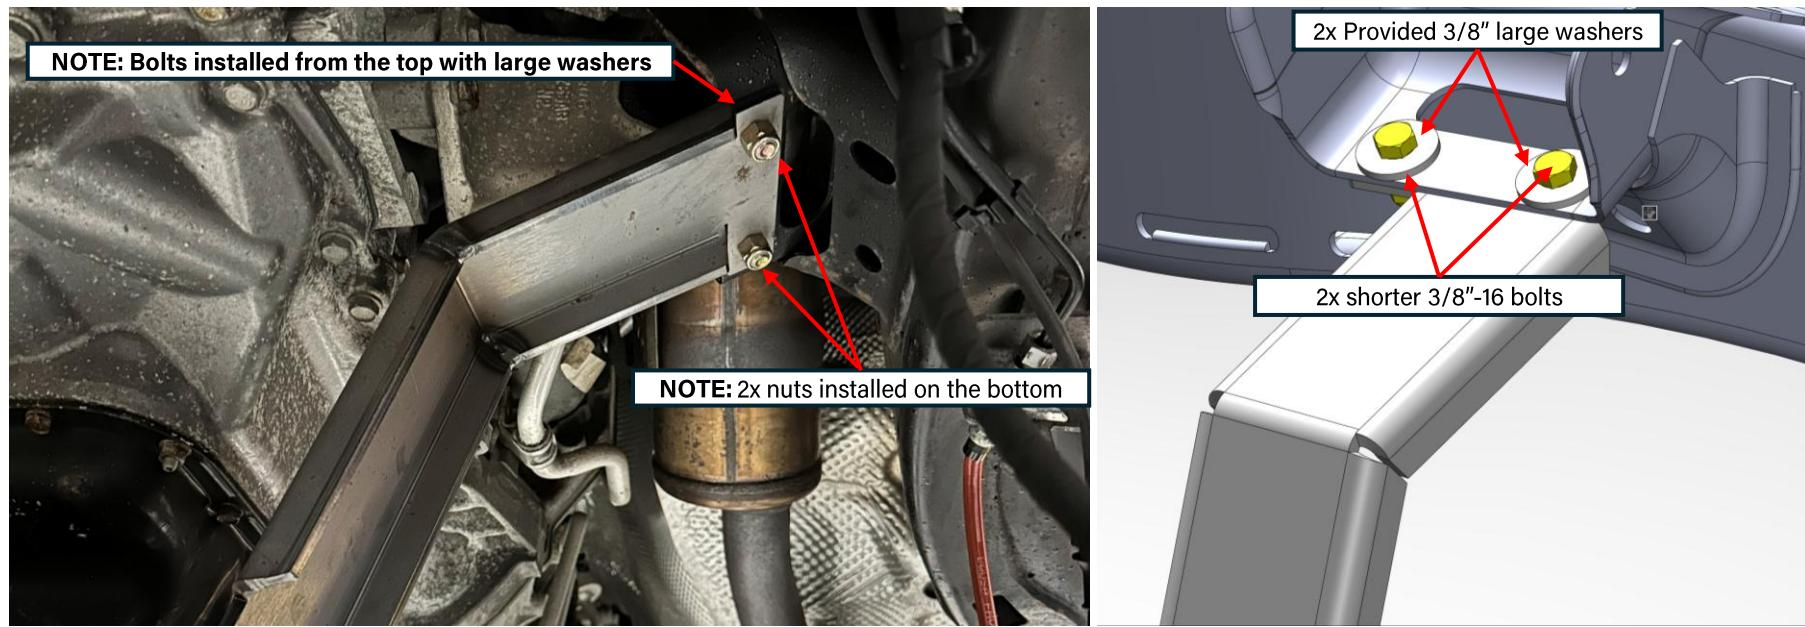

Figure 34: CAD and installation of driver-side motor mount bracket
27. **Loosely** install the provided driver-side motor mount bracket. This bracket has a clearance bend for the driveshaft. See Figure 34 below for clarification. **Install below the motor mount using the shorter, x2 provided 3/8"-16 bolts, large washers, and lock nuts. Do not install the skid plate yet!**